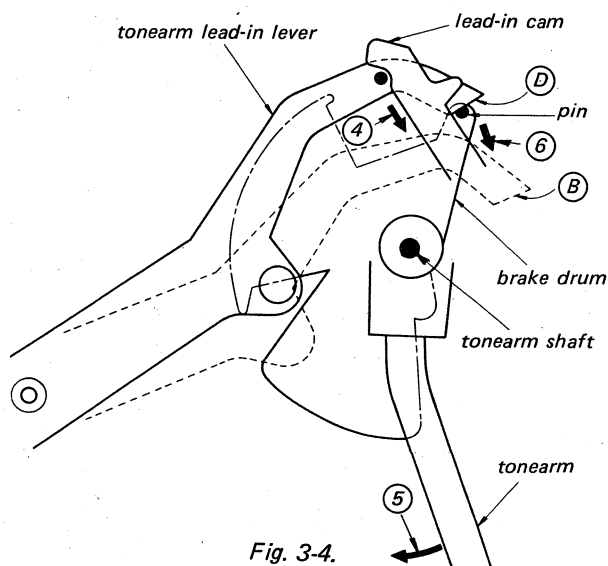

Fig. 3-4.
5. At this time, the lead-in lever moves in the direction of arrow ④, guided by the lead-in cam which moves together with the main lever. The tip D of the lead-in lever moves to position B, pushing against a pin on the brake drum in the direction of arrow ⑥. And since this brake drum moves in unison with the tonearm, the tonearm will move across (horizontal movement) in the direction of arrow ⑤. (See Fig. 3-4.)